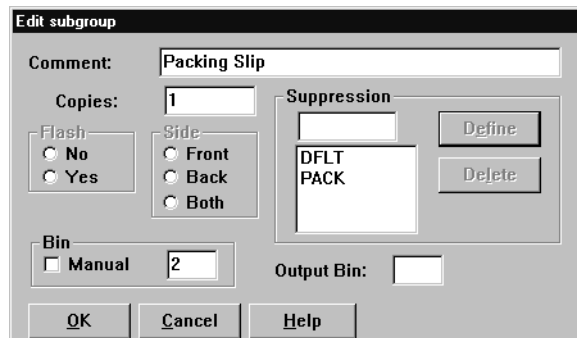

Figure 19. Edit subgroup
6. Now we want to change some of the other characteristics of the new subgroup. Right click on the icon for the subgroup. The **Edit subgroup** dialog will be displayed, as shown in Figure 19. We want to create a suppression tag so that the price fields do not print. Put the cursor in the small box under the Suppression heading and type the name of the tag which will be used on the price fields. In this example we will use **PACK**. Click on the **Define** button and the tag will be moved to the larger box below. The **DFLT** suppression should be listed there already. If not, add it in.